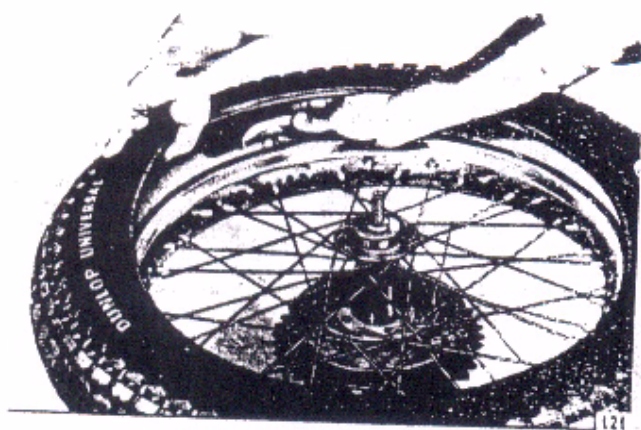
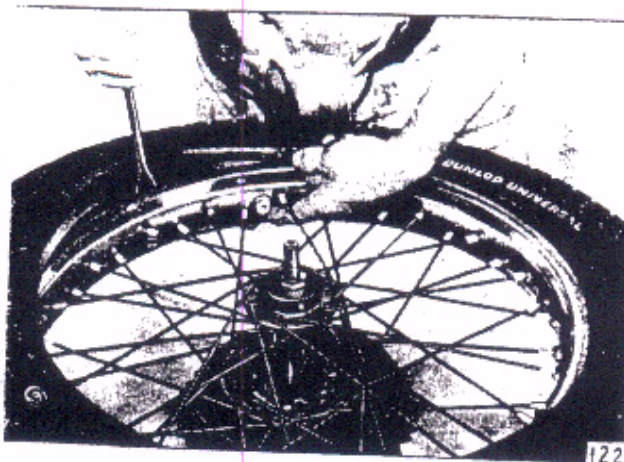

Fig. F17. Placing the security bolt in position
Fig. F18. Refitting the second bead with the security bolt in position
- (1) Fit the rim band.
- (2) Fit the first bead to the rim without the inner tube inside.
- (3) Assemble the security bolt into the rim, putting the nut onto the first few threads (see Fig. F17).
- (4) Partly inflate the inner tube and fit it into the tyre.
- (5) Fit the second bead but keep the security bolt pressed well into the tyre, as shown in Fig. F18, and ensure that the inner tube does not become trapped at the edges.
- (6) Fit the valve stem nut and inflate the tyre.
- (7) Bounce the wheel several times at the point where the security bolt is fitted and then tighten the security bolt nut.